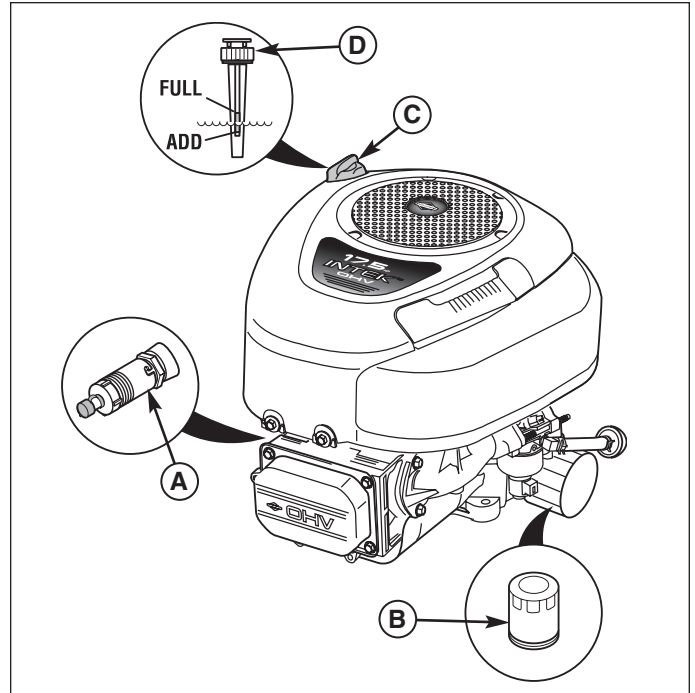

Figure 22. Briggs & Stratton single cylinder Models
2. Clean the area around the dip stick (C, Figure 22 or 23).
3. Remove the dip stick (C) and clean it with a paper towel.
4. Insert the dip stick (C) back into the engine. **Briggs & Stratton Models**, thread the cap back onto the tube. **Kohler Models**, push cap (C) firmly into place.